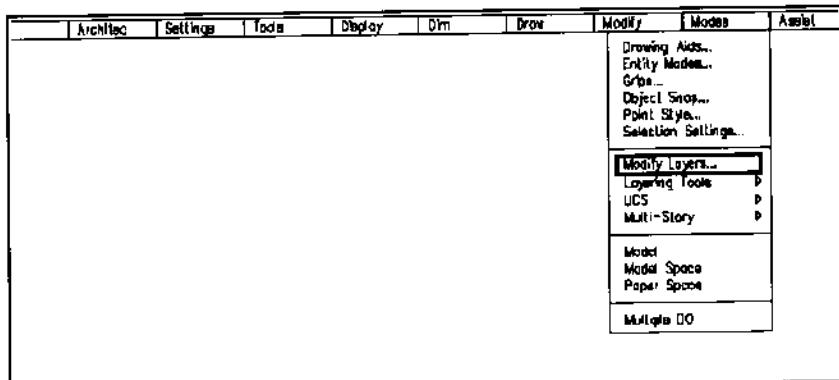

Figure 5.
2. Select Modify Layers from the Modes pulldown menu shown in Figure 5 to open the Modify Layers dialog box and turn off the following layers: ARHEADER, ARWHEADER, ARWALL1LINE, ARWALLCEN, RFBLOCKS, RFFASCIA, RFFRAME, RFINFO, RFPERIM, RFSOFFIT, ROOFF3D.